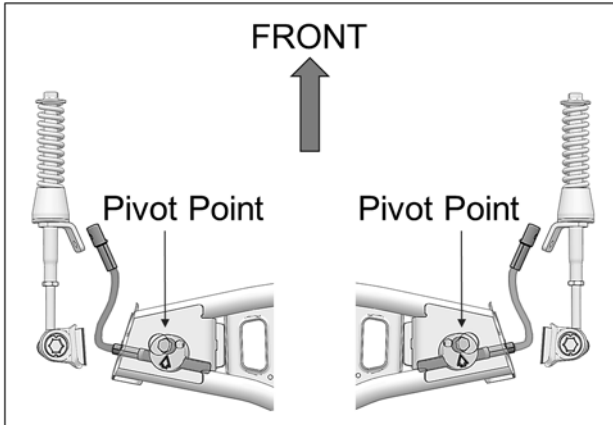

Fig. 24
14. Make sure aluminum disk pivot point is installed in front of steering limiter cable. See Fig. 24